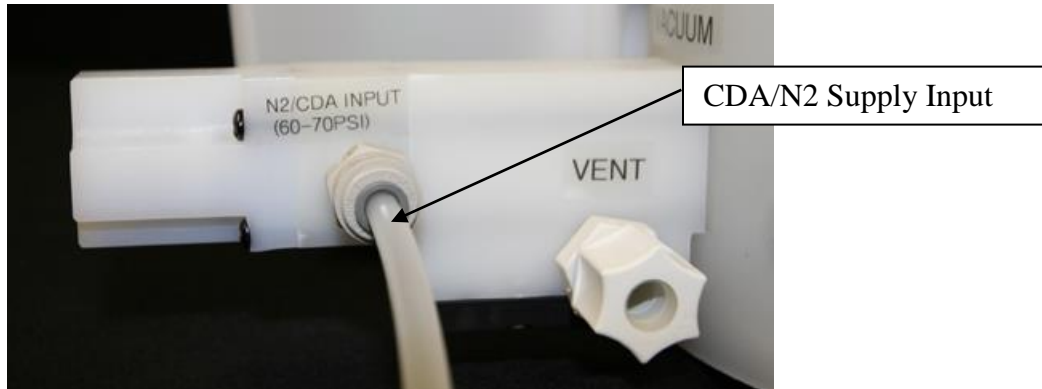

Figure 3
2. Connect the output side of the regulator, using the provided 1/4" tubing, to the input on the vacuum transducer box. See figure 3